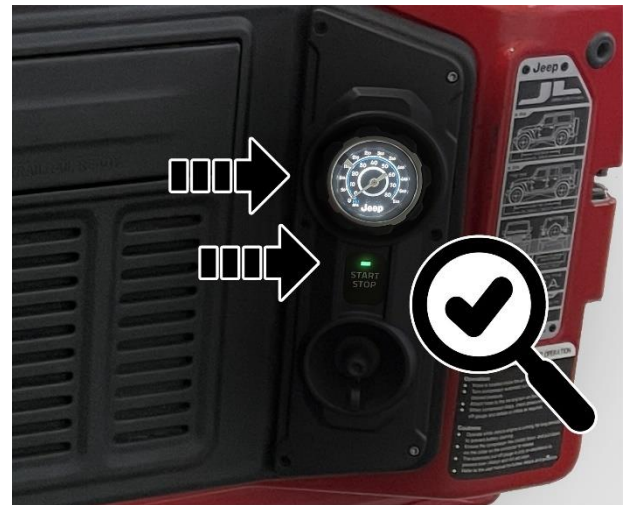

Figure 25 – Air Compressor “Start/Stop” Switch
- 46. Verify on the “Start/Stop” button light on the swing gate air compressor is illuminated when pressed (Figure 25).